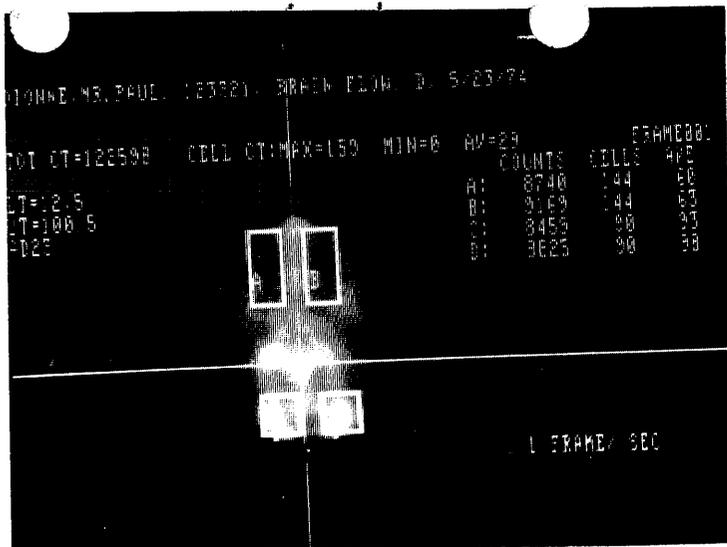

FIGURE 18. ROIs marked over each hemisphere
- 2) display an image of the brain (AD_n), smooth the image (S9), and enter regions of interest (RI) or (IR)
- 3) mark regions on either side of the midline (Figure 18)